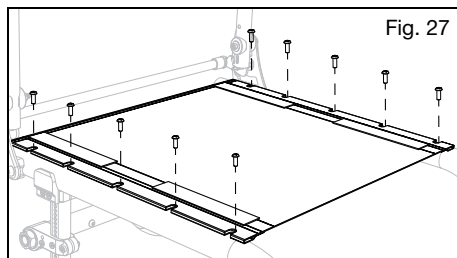

Fig. 27
2. Loosen the Phillips head screws (Fig. 27) on the same side of the seat upholstery as the tension adjustable flap.
6. Retighten the Phillips head screws (Fig. 27).
1. Remove the 5mm Phillips head screws (Fig. 27) from the seat rails on each side of the frame and set aside.
5. Replace the 5mm Phillips head screws (Fig. 27) by partially threading into place. Once all screws have been started, go back and tighten to secure.